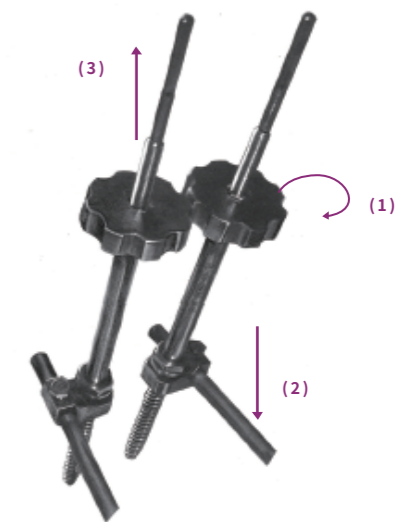

Fig.2b
-When the lifting is complete, remove the lifting nut, tighten the 1mm nut with a socket wrench, and remove the lifting sleeve (Fig. 2b).